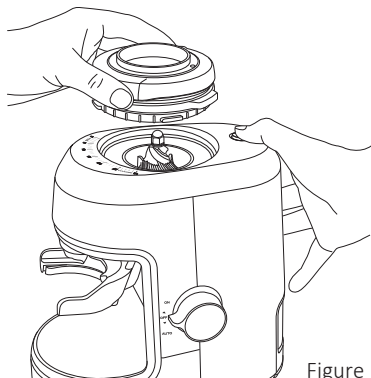

Figure 10
5. Lift the grind cartridge away from the grinder base, see figure 10.